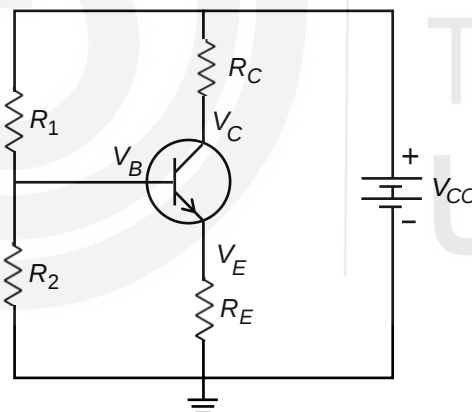

Fig. 4.11: Universal bias for an n - p - n transistor in common emitter configuration.
Universal bias is the biasing method most widely used for linear operation of the transistor (see Fig. 4.11). It is also known as the voltage divider circuit because the resistances R_1 and R_2 in Fig. 4.11 form the voltage divider. In this biasing method, only one battery or dc power source is required. It uses four resistors and provides a stable operating point.
Note from Fig. 4.11 that the voltage across R_2 forward biases the emitter diode. In this biasing method, the Q point is independent of the dc beta gain. Let us explain how. If the current gain (β_{dc}) increases, the collector current (I_C) increases. This results in an increase in the emitter current I_E and, hence, the voltage drop across R_E increases. From the input circuit in Fig. 4.11, you can see that resistors R_1 and R_2 form a voltage divider across the dc power supply V_{CC} , and the current I_1 through these resistors is usually selected to be about one-tenth of the collector current. Since the base current is small, the current through R_2 can also be taken as $\sim I_1$. So, the voltage across R_2 is
Calculate the dc voltages (base voltage, emitter voltage, collector voltage and collector to emitter voltage) and collector and emitter currents for the universal bias circuit of Fig. 4.11 given that $R_1 = 40\text{ k}\Omega$, $R_2 = 5.0\text{ k}\Omega$, $R_C = 5.0\text{ k}\Omega$, $V_{CC} = 12\text{ V}$ and $R_E = 1.0\text{ k}\Omega$. Take $V_{BE} = 0.3\text{ V}$ for the transistor used. Hence, locate the Q point.
For the circuit given in Fig. 4.11, state if the following quantities will increase or decrease if R_1 is increased by 50%?
- Calculate the base voltage, emitter voltage, collector voltage, collector to emitter voltage, and collector and emitter currents for the universal bias circuit of Fig. 4.11 given that $R_1 = 45\ \text{k}\Omega$, $R_2 = 5.0\ \text{k}\Omega$, $R_C = 5.0\ \text{k}\Omega$, $V_{CC} = 15\ \text{V}$ and $R_E = 1.0\ \text{k}\Omega$. Take $V_{BE} = 0.3\ \text{V}$ and hence, locate the Q point.